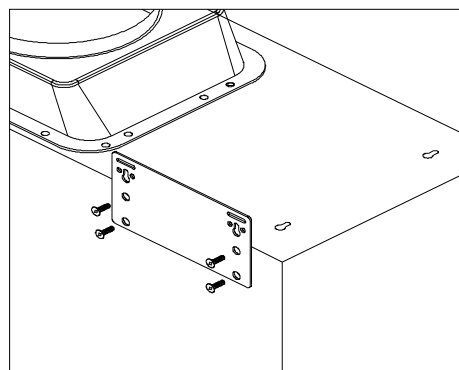

Figure 12
- Use eight (3/16" x 3/8") screws (included) to attach the two hood-mounting brackets (included) to the back of the hood. Refer to Figure 12.